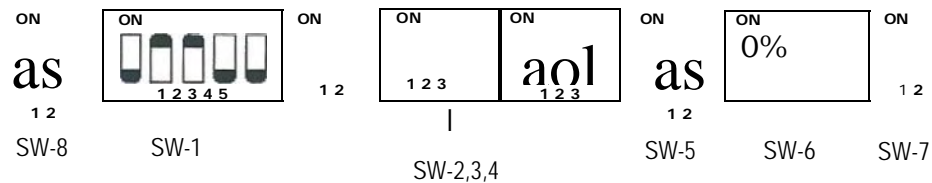

Figure 30-14 1770-KF2B Module DIP Switches
- SW-6 For a communication rate of 9600 baud, set switch 1 OFF and switches 2 and 3 ON (as shown in Figure 30-14). Set switch 4 OFF.